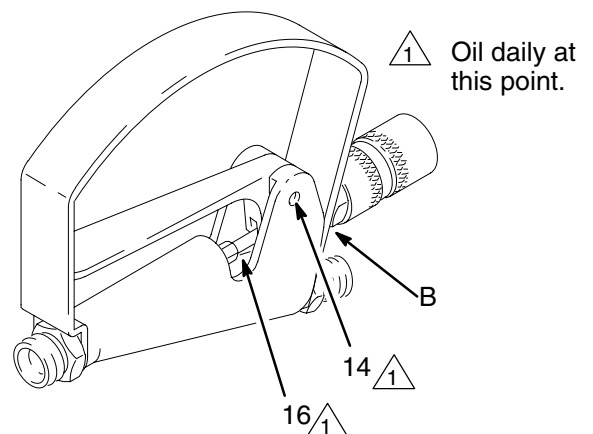
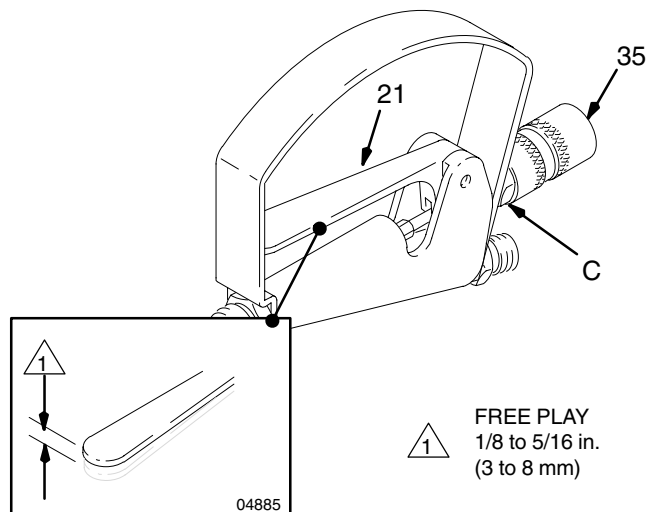
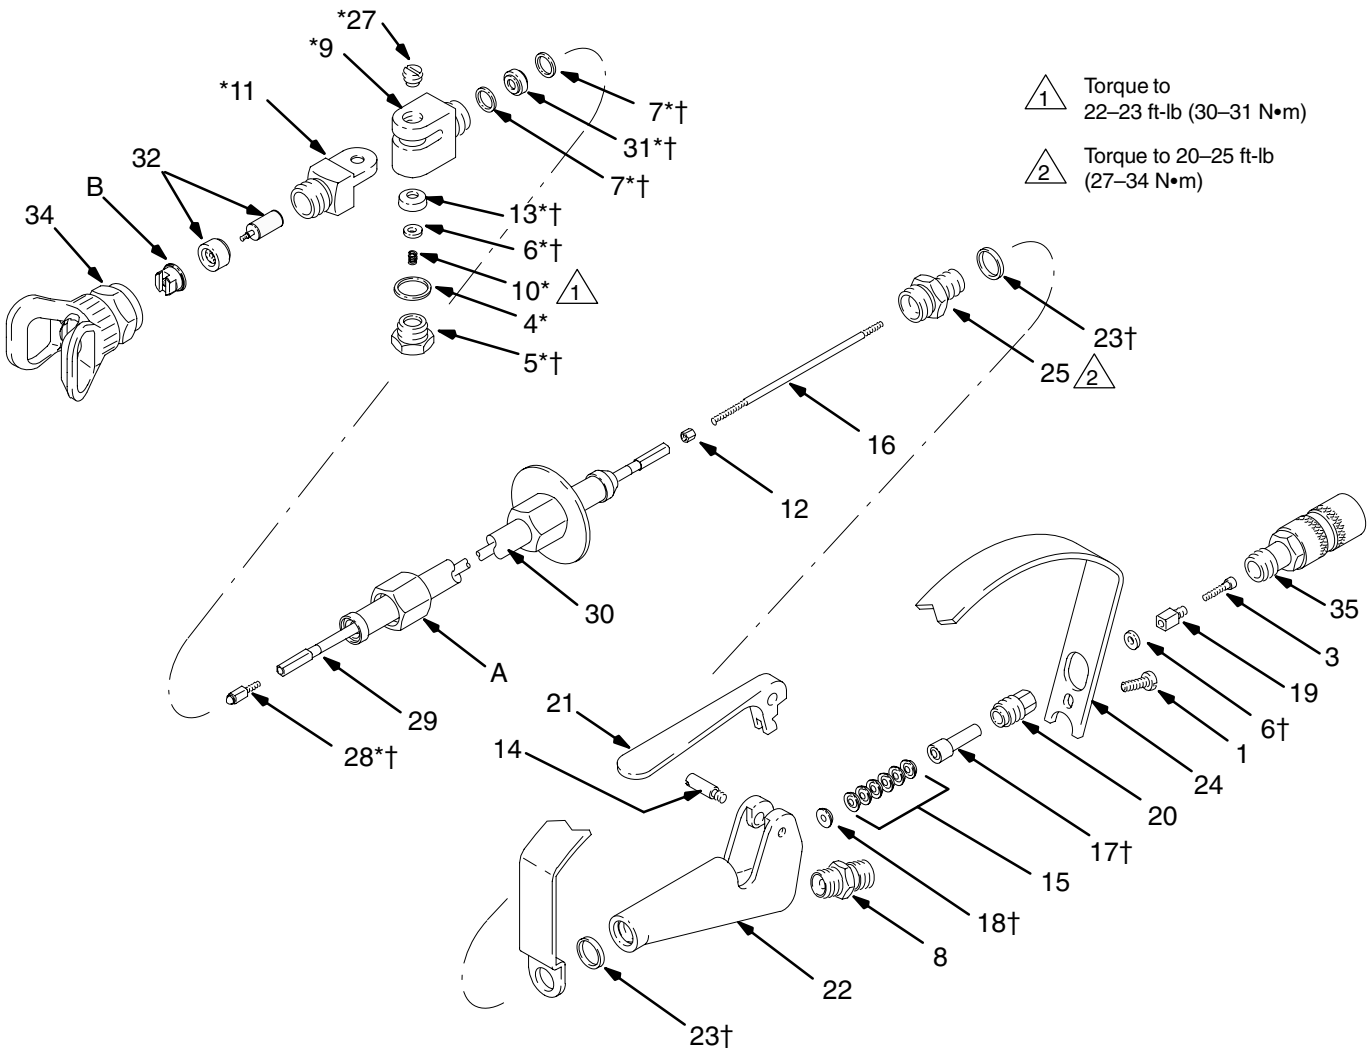

Fig. 4
Fig. 5 _____ 04884
Fig. 6
Turn the hex part of the trigger safety (B) in or out to adjust the trigger tension. See Fig 4.
Oil the exposed part of the valve rod (16) and trigger pivot (14) daily. See Fig. 4. Whenever you clean the gun, remove the tension adjusting screw (3), and pull out the valve rod. See Fig. 6, page 7. Clean and oil the exposed part of the valve rod all the way back to the packing screw (20).
2. Check the free play of the trigger. Lift the trigger (21) with a finger; it should move 1/8 to 5/16 inch (3.2 to 7.9 mm). See Fig. 5. If not, adjust as described below.
3. Grasp the hex (C) of the safety knob (35) with an 11/16 inch open end wrench and unscrew the knob assembly from the gun body.
4. Squeeze the trigger to move the adjusting nut (19) out, and then loosen the cap screw (3). See Fig. 6. Unscrew the adjusting nut (19) just a few turns.
5. Push the adjusting nut forward as far as possible. You should feel the valve stem (28) contact the seat (31). This indicates proper contact to stop the flow of fluid.
6. Turn the adjusting nut (19) in until the proper free play is obtained. Squeeze the trigger to move the adjusting nut out and tighten the cap screw (3).
7. Screw on the safety knob (35).
2. Unscrew the extension tube nut (A) from the swivel housing (9*). Remove the valve seat (31*) and gaskets (7*). See Fig. 6.
4. Remove tip guard (34), tip (B), and tip fluid filter (32).
13. Install the screw (27) in the top of the swivel housing (9). Install the new seal (13†), washer (6†) and the spring (4). Place the new gasket (5†) on the access plug (10). Install the plug and torque it to 22 to 23 ft-lb (20 to 31 N•m).
14. Be sure the needle assembly is the correct length. See the DETAIL in Fig. 6. If adjustment is needed, loosen the nut (12) and screw the valve rod (16) in or out as needed. Tighten the nut (12).
15. Lubricate the smooth shaft of the valve rod (16). Insert the threaded end of the needle assembly through the front of the gun.
16. One at a time, slide the new male gland (18†) and six v-packings (15†) *–with the lips of the v-packings facing the front of the gun body–* onto the back of the valve rod (16). Slide the packings into the packing cavity. Insert the new female gland (17†) and press it gently into the packing cavity to help seat the packings.
17. Screw the packing screw (20) loosely into the cavity.
18. Install the trigger (21) and pivot (14).
19. Place a new washer (6†) on the valve rod and thread the adjusting nut (19) onto it. Hold the adjusting nut with an adjustable wrench. Thread the cap screw (3) a few turns into the nut.
20. Place a new gasket (23†) on each side of the front of the trigger guard (24). Screw the tube adapter (25) into the front of the valve. Torque the adapter to 20 to 25 ft-lb (27 to 34 N•m).
21. Slide the extension tube (30) over the needle assembly and screw it onto the tube adapter (25). Screw the tube nut (A) onto the swivel housing (9).
22. Tighten the packing screw (20) just enough to stop leakage; over-tightening results in leaking.